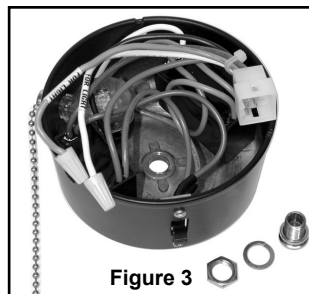

Figure 3
2. Remove the threaded plug, lockwasher, and nut from the center of this cover by unscrewing it. You may discard or keep them for future use (Figure 3).
4. Locate two single wires in switch housing. White (gray on some models) and blue (red on some models) labeled "FOR LIGHT" (Figure 3).